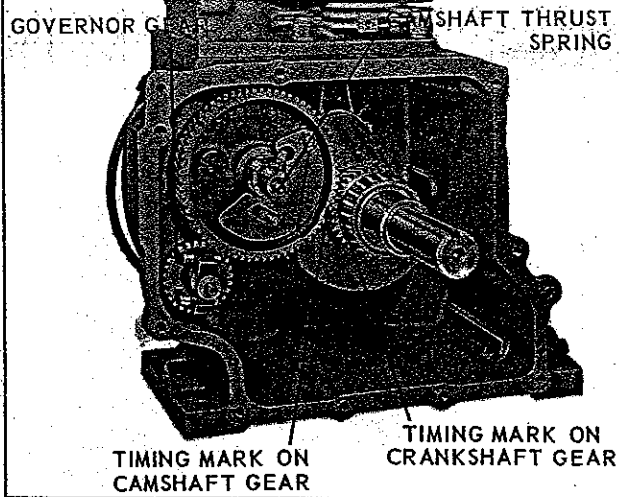

Fig. 41 293041C-1
**Caution:** Be sure timing marks on crankshaft and camshaft gear, Fig. 41, remain correctly mated when end of camshaft is pressed into bearing hole of gear cover.
**In reassembly:** Tappets must be inserted in crankcase before camshaft is assembled. Mount camshaft so that *timing mark* on cam gear matches up with *marked gear tooth* on crankshaft gear. See Fig. 41. If valve timing is off, engine will not function properly or may not run at all. Be sure *thrust spring* is in place in end of camshaft, before mounting gear cover.